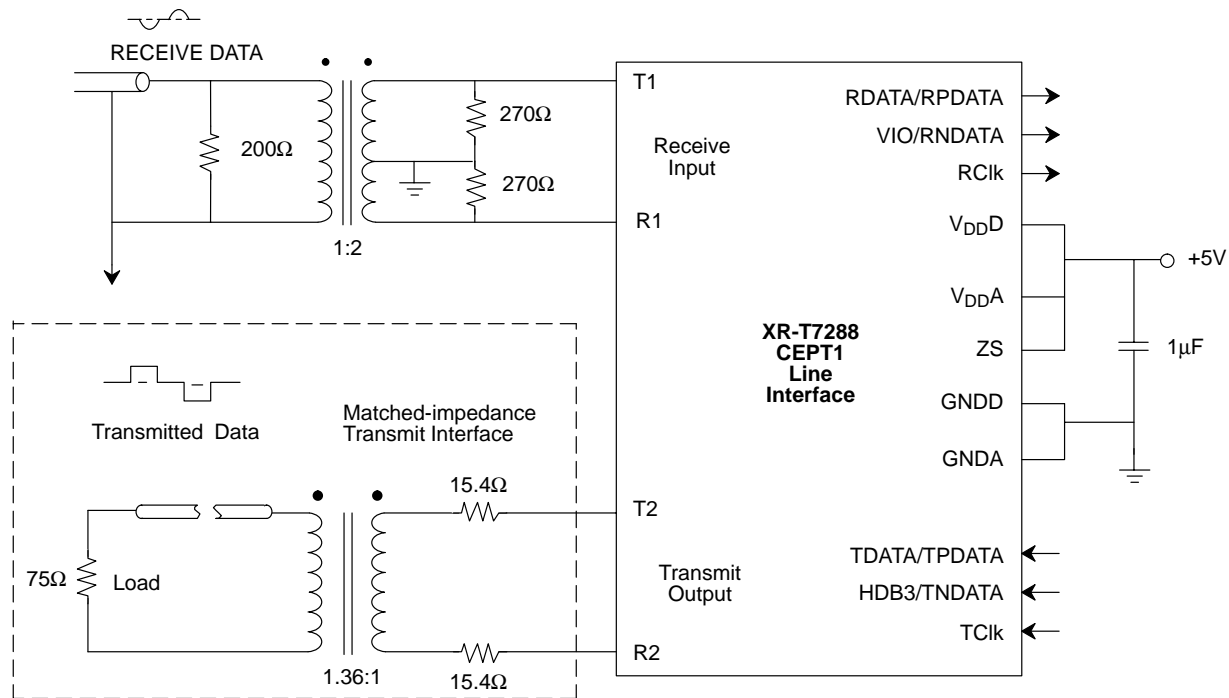
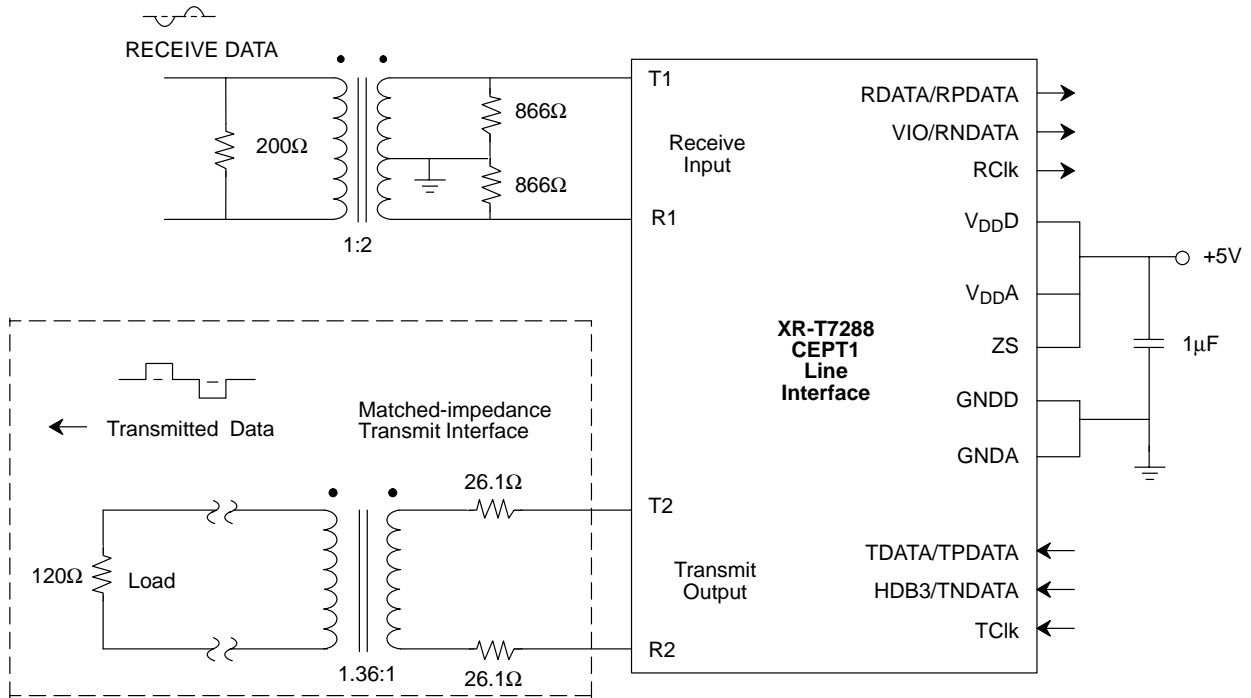

Figure 3. Typical Application Diagram for Coaxial Environment
Figure 4. Typical Application Diagram for Shielded Twisted-Pair Environment
⁵ All measurements are with a matched-impedance transmit interface (see Figure 3. and Figure 4.) and with V_{DD} or GND applied to digital input leads.
- ⁵ All measurements are with a matched-impedance transmit interface (see Figure 3. and Figure 4.) and with V_{DD} or GND applied to digital input leads.
The XR-T7288 device is a fully integrated line interface that requires only two transformers, three input termination resistors, and two output impedance-matching resistors to provide a bidirectional line interface between a 2.048 Mbits/s CEPT datalink and terminal equipment. Typical application diagrams are shown in *Figure 3* and *Figure 4* for 75Ω coaxial cable and 120Ω shielded twisted-pair operation, respectively. The circuit is divided into three main blocks: transmit
converter, receive converter, and logic. The transmit and receive converters process information signals through the device in the transmit and receive directions, respectively; the logic is the control and status interface for the device. *Figure 3* and *Figure 4* include a matched-impedance transmit-interface section in order to match the output impedance of the transmitter to the line. See *Table 1* for the G.703/CH-PTT specifications for transmit-interface return loss.